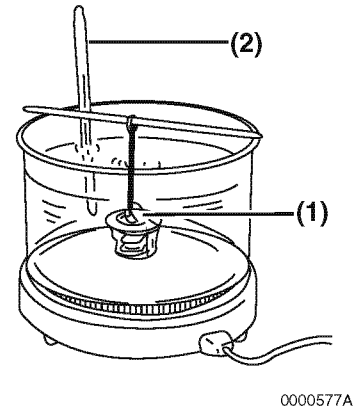

Figure 8-9
1. Check for proper operation of the thermostat. Place the thermostat (**Figure 8-9, (1)**) and an accurate thermometer (**Figure 8-9, (2)**) in warm water.